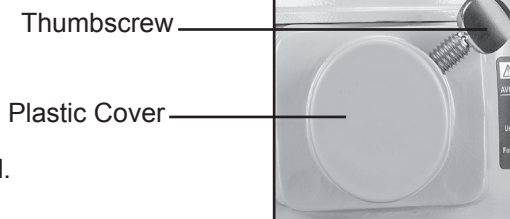

fig. 12-1
1. Loosen and remove the attachment hub thumbscrew (see fig 12-1).
2. Remove the plastic cover from the attachment hub (see fig 12-1).